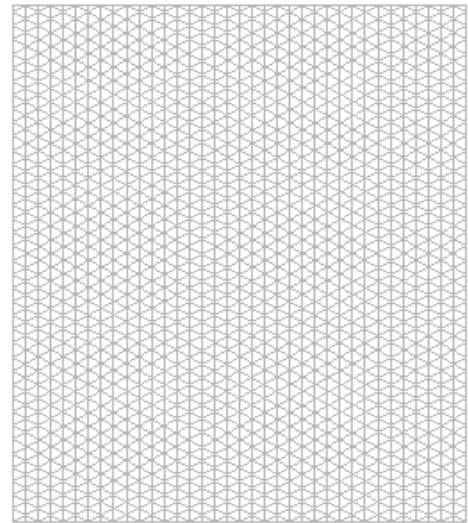

Figure Step 3
Step 3 Set the UCS to World and the view to Top. Enter the UNITS command. In the Units dialogue box, set the Insertion Units to Inches. Using the INSERT command, insert the block: AutoCAD 3D Workalong 07-1 at the coordinates 0,0,0. Explode the block. The drawing should appear as shown in the figure. (Figure Step 3)